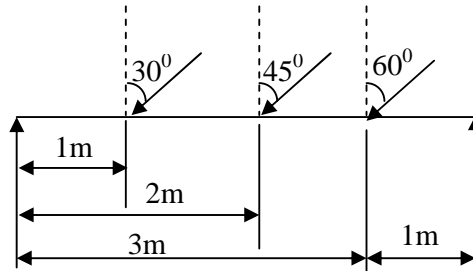

Figure 2
3. A simply supported beam carries inclined loads of 100, 200 and 300 N inclined at 30° , and 45° and 60° to the vertical as shown in Figure 2. The loads act at 1 metre, 2 metres and 3 metres from the left support respectively. If the span is 4 meters, draw the bending moment and shear force diagrams and calculate their values under the loads.